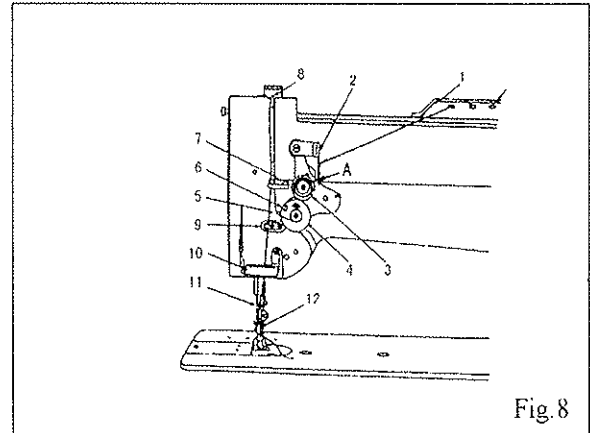

Fig. 8
8. THREADING (Fig.8)
Before adjusting the tension of the upper (needle) thread, be certain that the presser foot is let down but not in lifted position. To adjust tension, turn serrated nut (A Fig.8) on tension device to clockwise to increase tension, while turning it to counter-clockwise to decrease it.